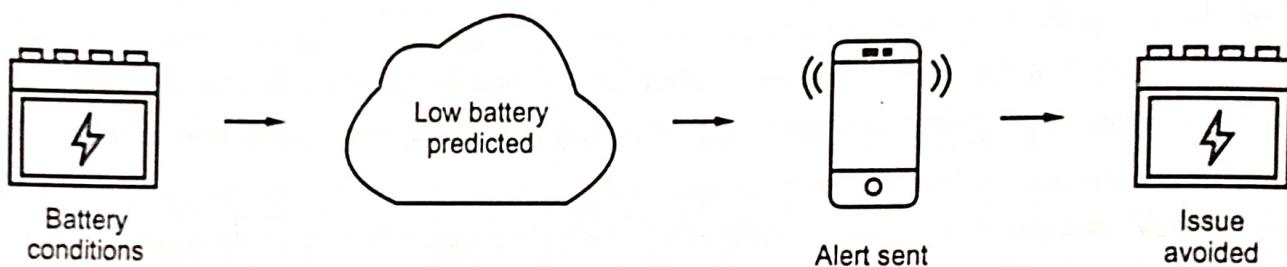

Fig. 7.7.1 : Battery working
- Fig. 7.7.1 shows battery working.